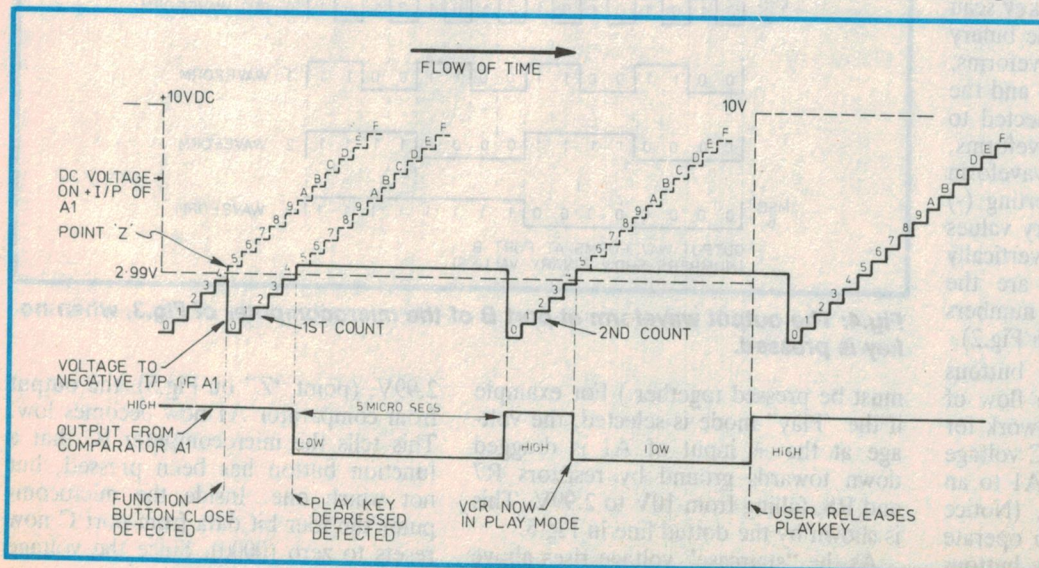

Fig.5: Operation of the ramp D/A comparator of Fig.3, when the PLAY key is pressed to select this mode.
must be pressed together.) For example if the "Play" mode is selected, the voltage at the + input of A1 is dragged down towards ground by resistors R7 and R8, falling from 10V to 2.99V. This is shown by the dotted line in Fig.5.
2.99V, (point "Z" on Fig.5), the output from comparator A1 now becomes low. This tells the microcomputer IC that a function button has been pressed, but not which one. Inside the microcomputer the four bit data from port C now resets to zero (0000). Since the voltage